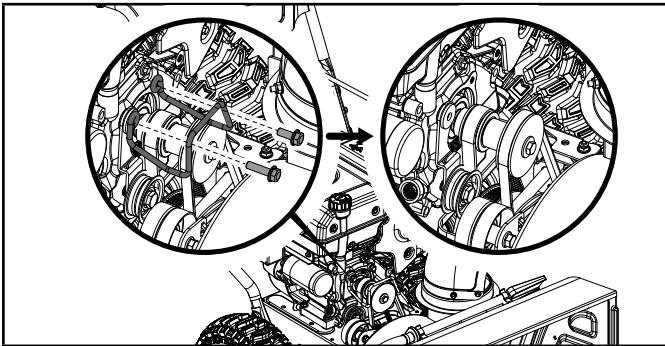

Figure 29
3. Remove the 2 bolts (20 mm/30 mm) holding the belt guard (Fig. 29). Note the spring is loose at this point.